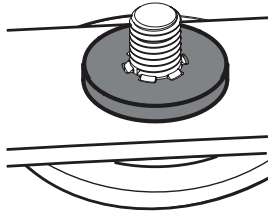

Figure 63
2. Carefully place the flat washer on the spindle shaft. Be sure that the splines at the base of the spindle shaft threads line up with the washer splines (Figure 63).